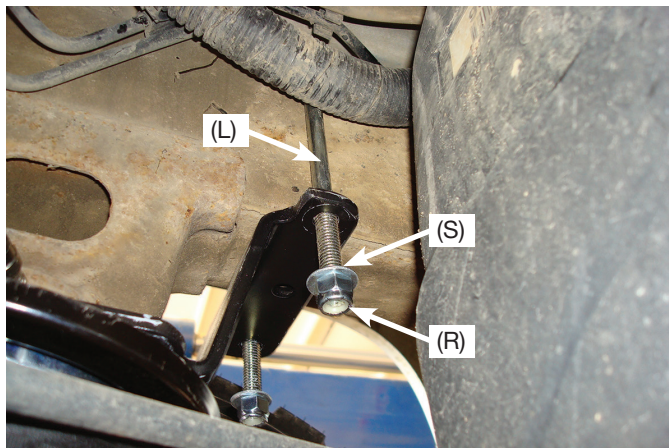

fig. 19
5. **For vehicles with NO fifth-wheel bracket along the side of the frame:** Set the U-bolt (L) over the frame and through the holes in the upper bracket forward of the axle (fig. 19).